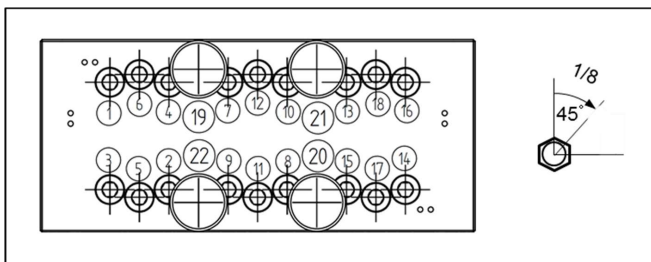

Figure 19: Screw connection tightening order
3. Check that all tightenings are performed with a maximum of 45° rotation, according to the sequence in Figure 19: Tightening order of connections screw.
3. Check that all tightenings are performed with a maximum of 45° rotation, according to the sequence in Figure 19: Screw connection tightening order.